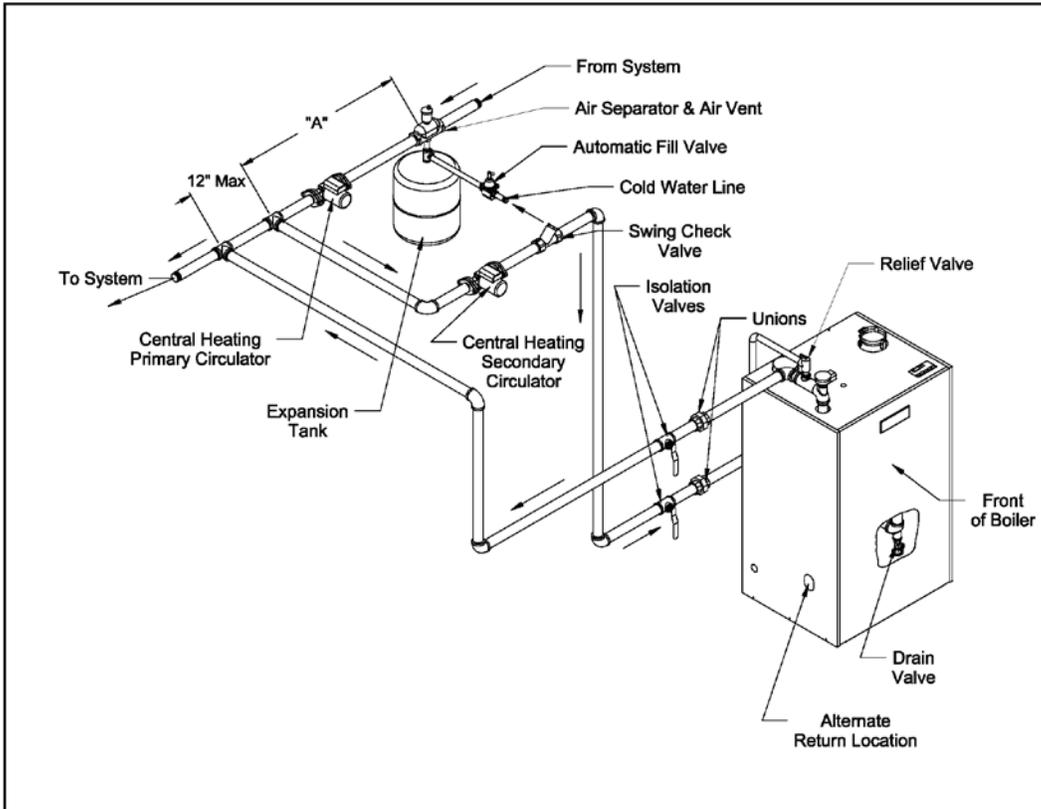
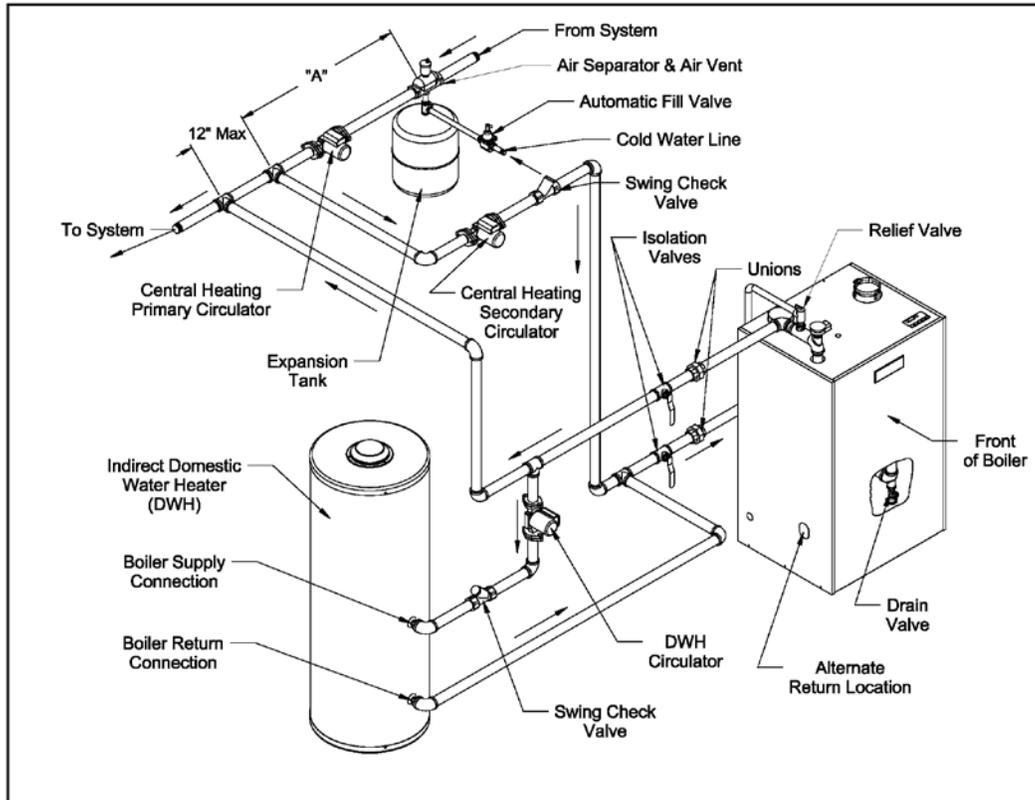

Figure 8.2: Piping Method #1 - Heat Only
Figure 8.3: Piping Method #1 - Heat + Indirect Water Heater
This method can be used in heat-only applications as shown in Figure 8.2 or with an indirect water heater as shown in Figure 8.3. This method relies on primary/secondary pumping to ensure that the required flow is always maintained through the boiler. In this system, the flow rate through the boiler is completely independent of the flow rate through the heating system. Use the following guidelines to ensure that boiler will have the required flow shown in Table 8.1 regardless of the flow in the heating system.
Example – Assume that a CHG150 is to be installed in a heating system along with a AL40A indirect water heater. A total of 15 ft of straight pipe will be installed between the boiler and the primary loop. A total of 20 ft of straight pipe will be installed between the boiler and the indirect water heater. Fittings are arranged as shown in Figure 8.3. The AL40A requires a flow rate of 8 GPM and has a head loss of 3.0 ft.
- 11) Drain Valve (Required) - The drain valve is installed on the return tee located in the lower vestibule compartment as shown in Figure 8.2.